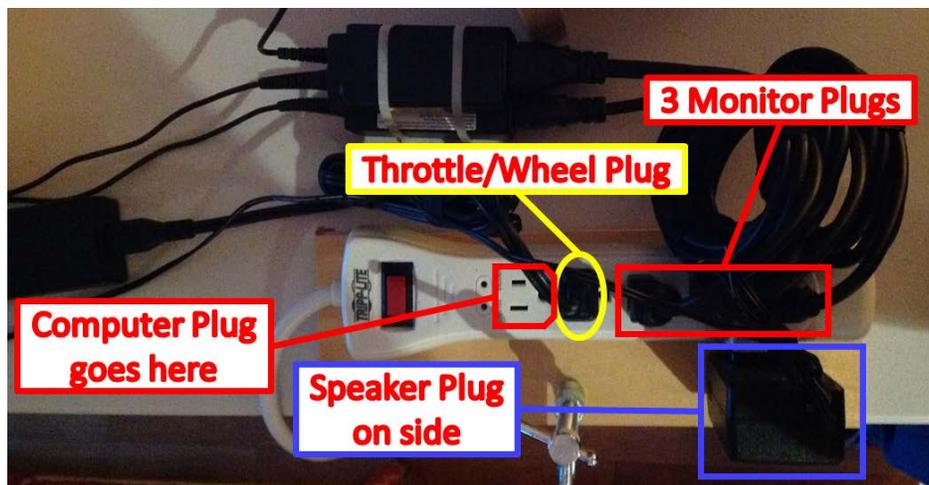

Figure 1 – Plug arrangement at power strip.
6. Clamp the power strip to table at indicated position with silver clamp. Plug the three monitor power cords into the power strip (refer to Figure 1 below for plug arrangement). Route and plug the three power cables to each monitor.
7. Open CASE #2. Remove the two hold-down screws with washers and then remove the throttle/wheel assembly from the case and place on table at marked position. While holding the assembly, install the hold-down screws. **CAUTION: until screws are installed, assembly is unstable.** Run cable harness to back of table and plug the power cord into the power strip (refer to Figure 1 below for plug arrangement).
9. Place the left speaker (has attached wire) under left monitor. Route left speaker wire to right speaker behind monitor riser platforms and connect to right speaker. Connect power and audio cable (green tip) to right speaker and place speaker under right monitor. Route speaker power cable to power strip and plug in (refer to Figure 1 for plug arrangement).